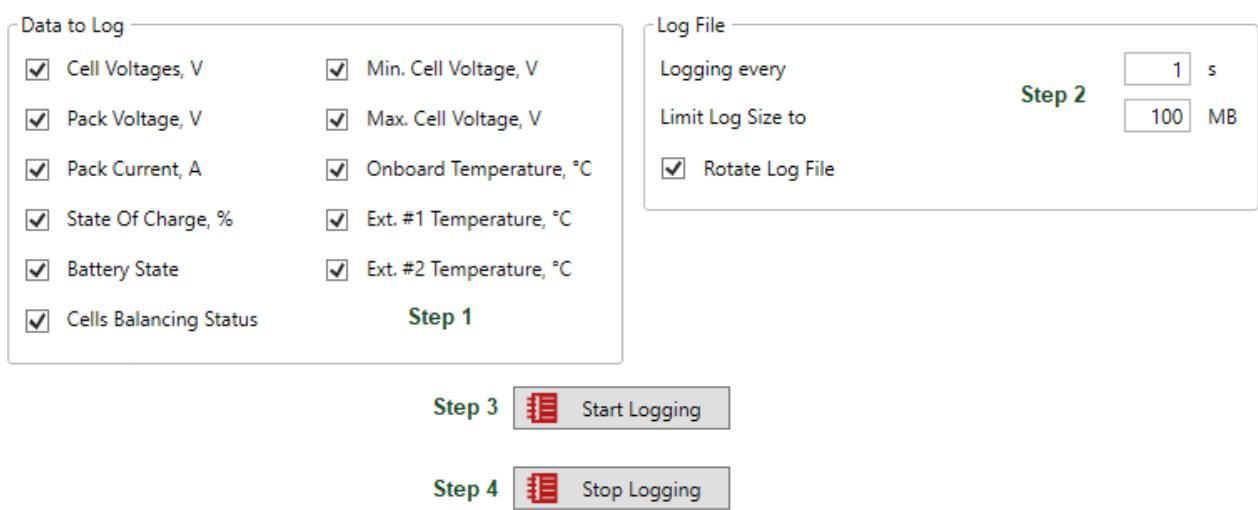

Figure 5.1: *Battery Insider* data logging control
*Battery Insider* can log basic *Tiny BMS* and battery live data values to a file, which is useful to monitor and analyze the battery processes like charging and discharging and determine battery behavior in different conditions. Also it is very useful to determine some problems of the *BMS* or the battery application itself, when the system malfunction or the unforeseen behavior has been occur. Unfortunately, due to the lack of the *Tiny BMS* internal memory, the data logging is only available until *Tiny BMS* is directly connected to the *Battery Insider* application through *USB-UART* or bluetooth interface. The user can choose which *BMS* and battery data to log. The log file is created in the same directory from which the *Battery Insider* application was launched. How to control *Battery Insider* logging feature is shown in *Figure 5.1*.